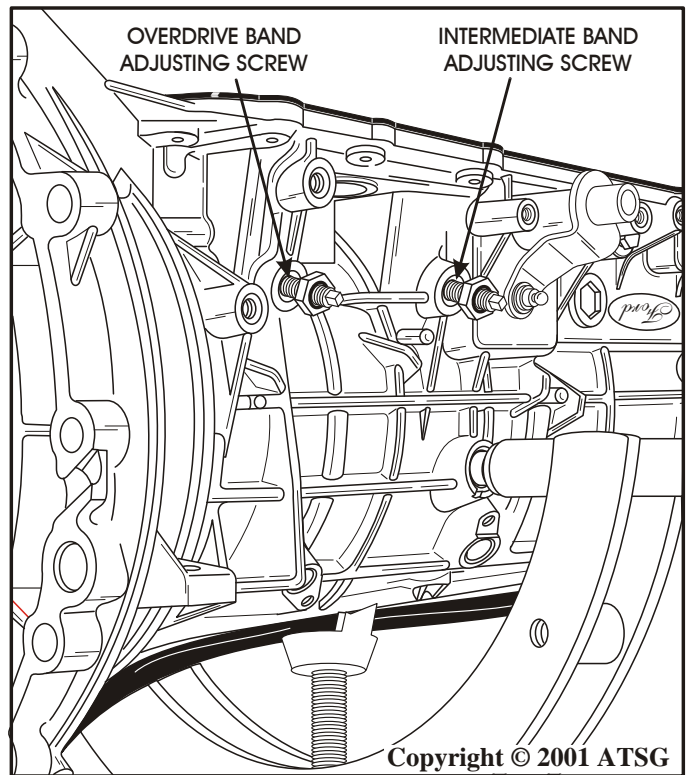

Figure 171
63. Install new locking nuts on both band adjusting screws, using care not to let the adjusting screw come out, so that the band anchors will not fall out and into transmission (See Figure 171).
64. Adjust the overdrive band by turning adjusting screw in while holding the lock nut. Torque the adjusting screw to 14 Nm (10 ft.lb.) and then back out *exactly* two (2) full turns. Refer to Figure 171.
65. Adjust intermediate band by turning adjusting screw in while holding the lock nut. Torque the adjusting screw to 14 Nm (10 ft.lb.) and then back out *exactly* two (2) full turns. Refer to Figure 171.